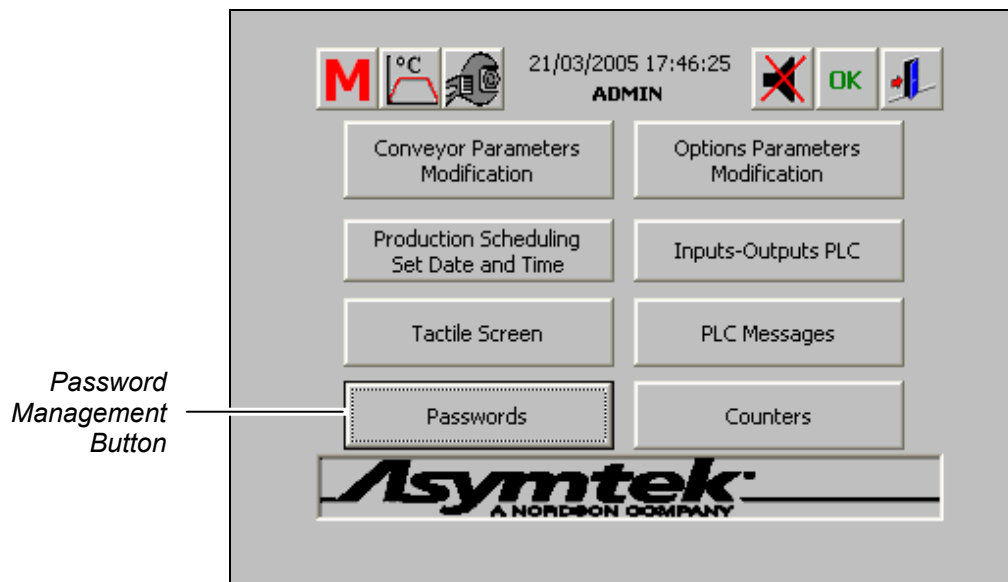

Figure 6-17 Control Menu – Password Management Screen
1. From the Control Menu click on the **Password Management** button to access the Password Management screen (Figure 6-17).